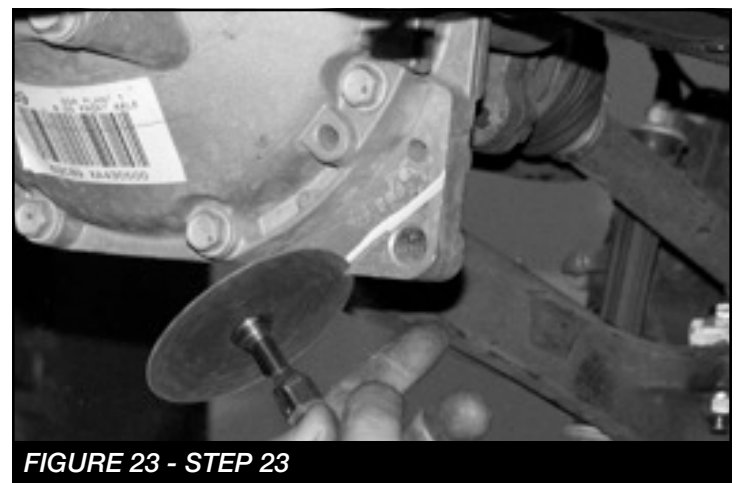

FIGURE 23 - STEP 23
23. Trim the front of the differential to clear the new skid plate. **SEE FIGURES 23**